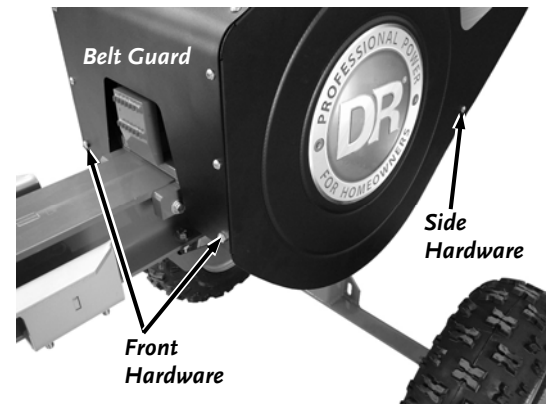

Figure 32
1. Remove one Bolt and Locknut on the left side of the Belt Guard with two 7/16" Wrenches (**Figure 32**).